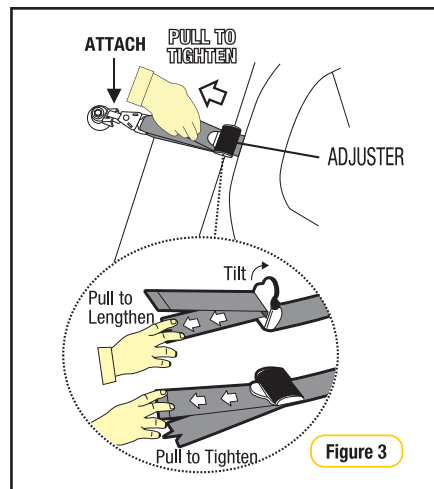

Figure 3
**Step 5:** Pull to tighten and remove all the slack, from the top tether strap (refer to Figure 3). Do not overtighten as this could cause the restraint to lift off the vehicle seat.